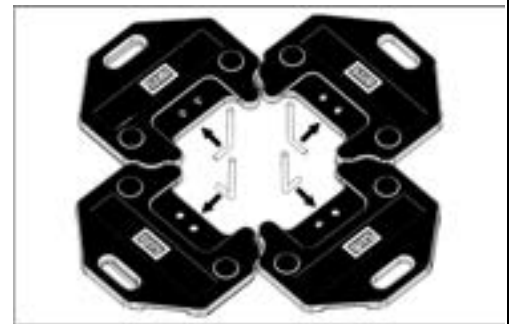

Figure 3
- a. Sweep the installation area free of loose materials, then layout four rubberized plates on a flat surface and Insert the “L” Bolts into the raised slots. Alternate the direction of each L-bolt. See Figure 3, and 4